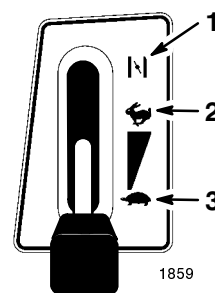

Figure 8
4. Move the throttle lever to Choke (Fig. 8).
6. After the engine starts, slowly move the throttle lever to Fast (Fig. 8). If the engine stalls or hesitates, move the throttle lever back to Choke for a few seconds. Then move the throttle lever to Fast. Repeat this as required.
1. Move the throttle lever to Fast (Fig. 8).